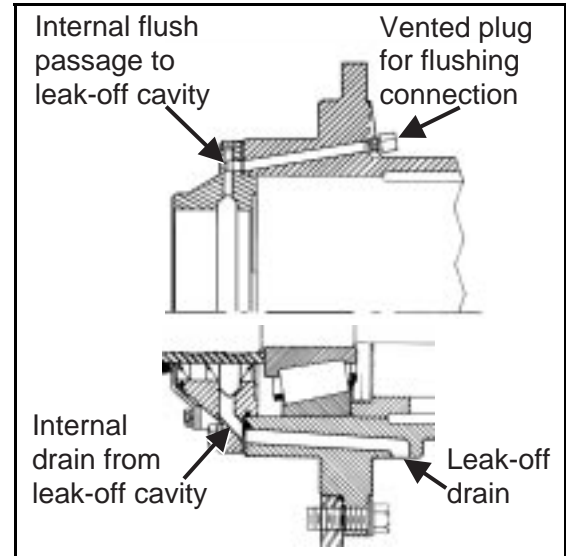

FIGURE 5 (MSSM0272AE) — Internal Flushing Passage and Leak-off
2. Pump approximately two quarts (1.9 liters) of mineral spirits into the flushing connection until the spirits flow easily out of the leak-off drains. FIGURE 5 shows the internal passage from the flushing connection, through the leak-off cavity, and the internal drain to the exterior of the housing.